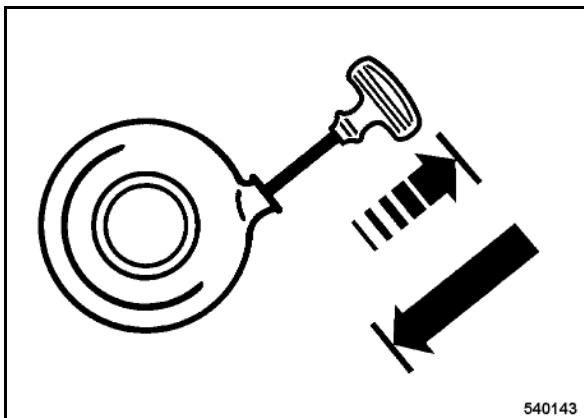

Fig. 14 □
- Pull the rope by the starter handle (Fig. 14) until resistance can be felt.